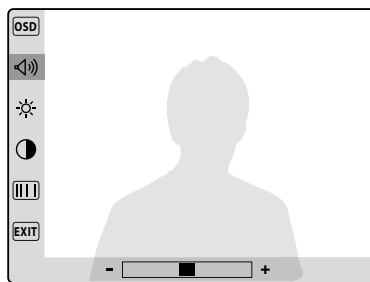

Fig. 3
- The speech volume (8 levels **Fig.3**);